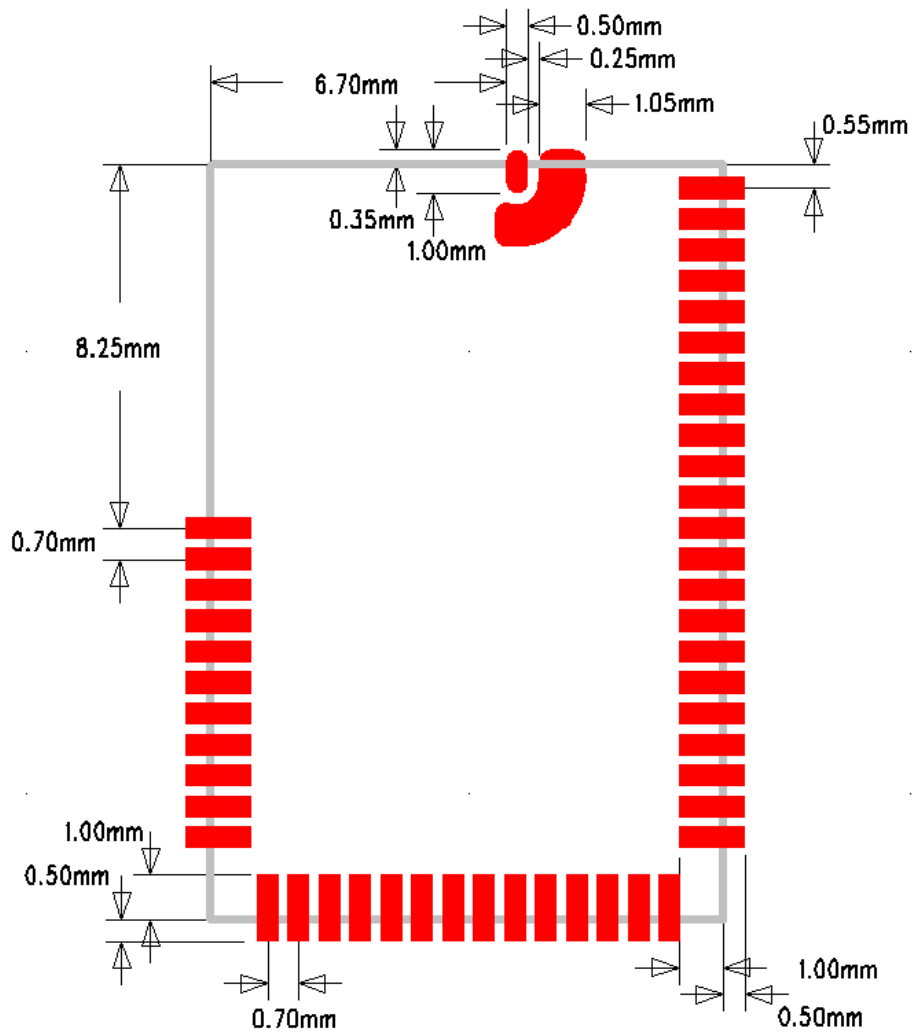
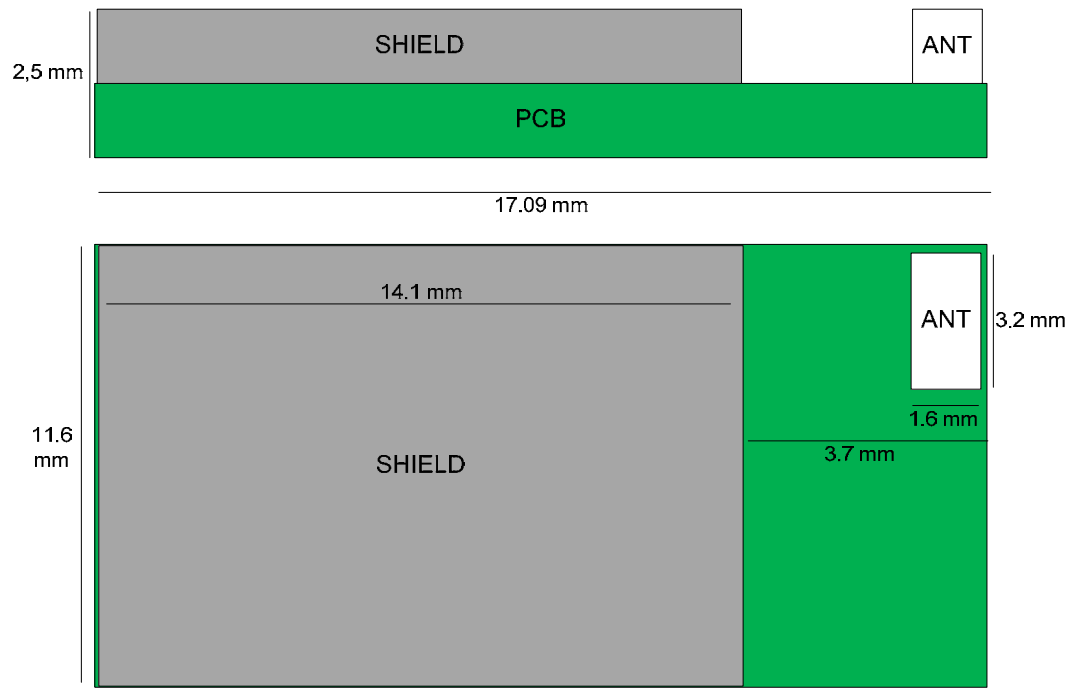

Figure 31: WT21-N recommended PCB land pattern
Figure 32: Detailed dimensions
Do not connect RFTP for WT21-A. See figure 32 for the recommended PCB land pattern. The impedance matching of the antenna is design for the evaluation board of WT21. For an optimal performance of the antenna the layout should strictly follow the layout example shown in figure 31 and the thickness of FR4 should be 1,6 mm. Any dielectric material close to the antenna will change the resonant frequency and it is recommended not to place a plastic case or any other dielectric closer than 5 mm from the antenna. If this is not possible, or if using other thickness of FR4 than 1,6 mm, then the antenna can be retuned by removing extra FR4 under the antenna. Please, contact Bluegiga for the details.
- Do not place a ground plane underneath the antenna. The grounding areas under the module should be designed as shown in Figure 31.